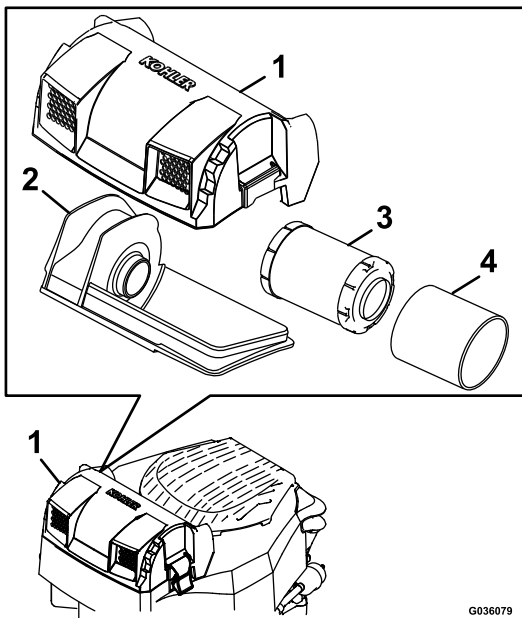

Figure 29
2. Remove the cover to access the air cleaner element (see Figure 29).